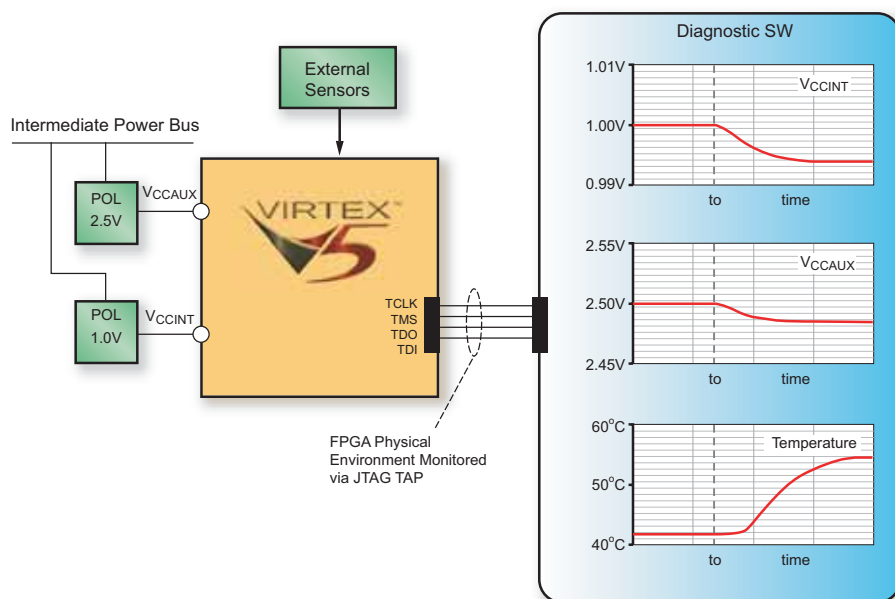

Figure 2 – You can access System Monitor measurements through the JTAG TAP.
Figure 2 illustrates a typical diagnostic application where the physical operating environment of the FPGA is monitored during normal operation. In the example illustrated in Figure 2, the System Monitor is used to look at the voltage (IR) drop in the power distribution system (PDS) during a period of heavy current demand starting at time t0. The temperature of the FPGA is also monitored during this period